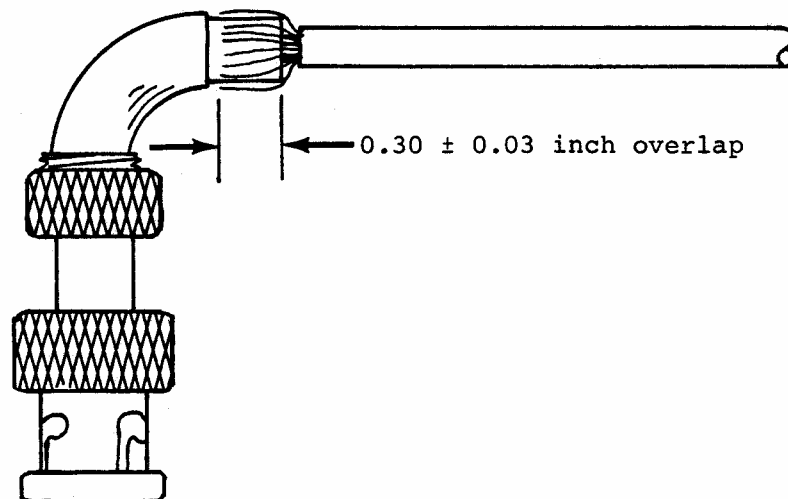

Figure 8-4. Trimming Dimension For Cable Braid
5. Trim the cable braid as shown in Figure 8-4.